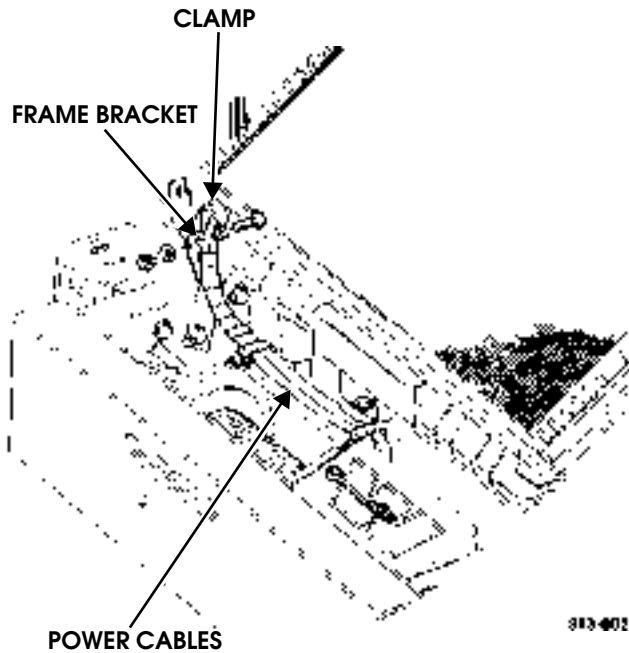

Figure 13-2: Frame Bracket
3. Remove nut, lockwasher, capscrew, and clamp from right frame extension. Discard lockwasher. Pull winch cables through the splash shield to front of vehicle (Figure 13-2).
8. Install winch cables on frame bracket with clamp, capscrew, lockwasher, and nut (Figure 13-2).